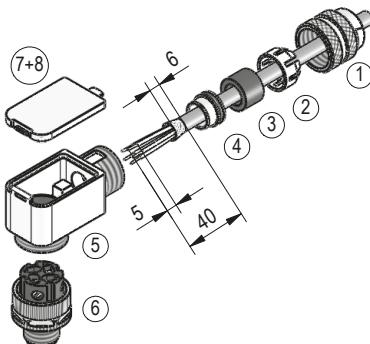
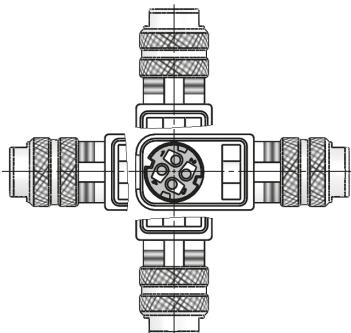

Fig. 4: Right angle mating connector M12 D coded
Fig. 5: Angled positions
- Accessory SIKO art. no. "87600" M12 D coded (plug pin 4 pole Bus) (Fig. 4 + Fig. 5).
### Mounting (Fig. 4)
### Changing the angle position (Fig. 5)